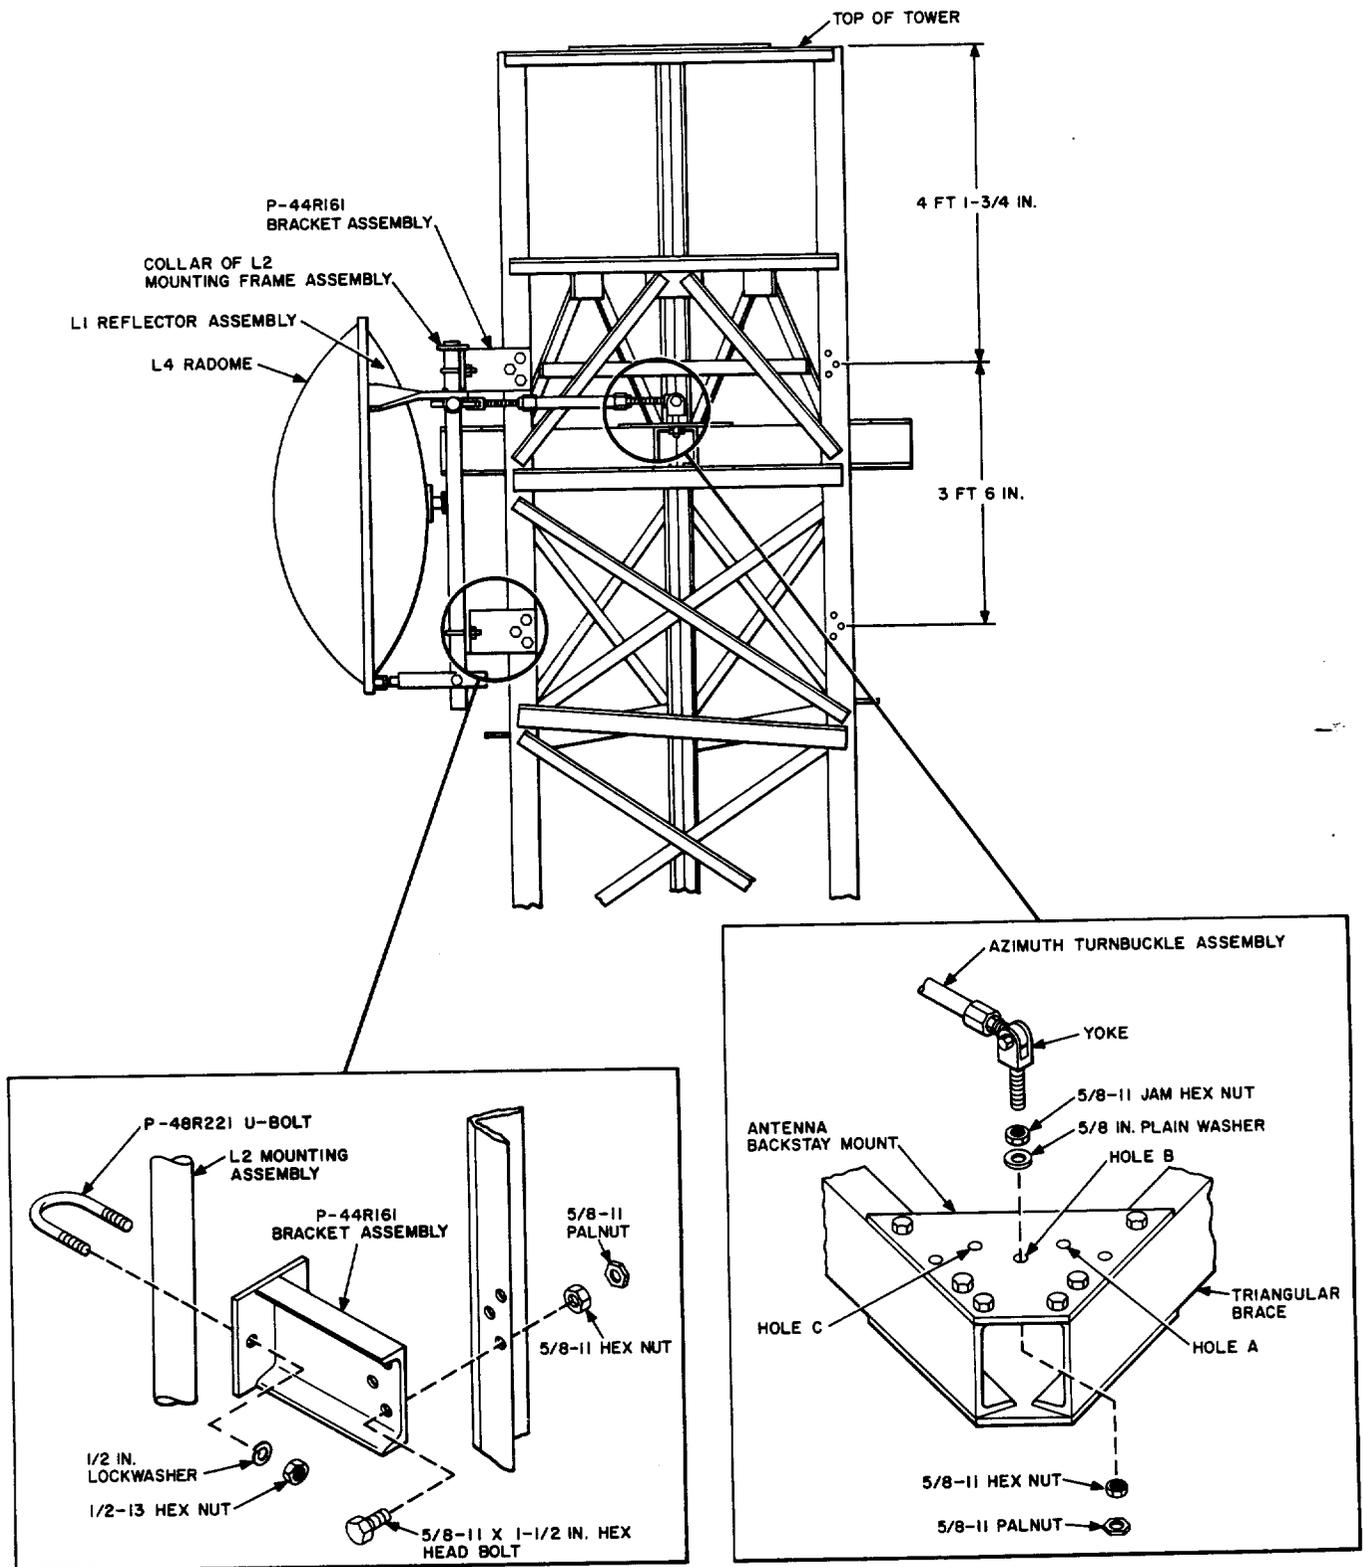

Fig. 6—Mounting Antenna on B Guyed Tower
5.10 Attach the two P-44R161 bracket assemblies to the tower leg as shown in Fig. 6. Local supervision shall determine, using Table C as a guide, if the brackets should be mounted on the left or right of the tower leg. Secure each bracket assembly with three 5/8-11 x 1 1/2 hex head bolts, 5/8-11 hex nuts, and Palnuts.
Guide the vertical member of the mounting frame into position against the two brackets (Fig. 6). The collar of the mounting frame should rest on top of the upper bracket. Secure the mounting frame to each P-44R161 bracket assembly using a P-48R221 U-bolt, two 1/2 lockwashers, and two 1/2-13 hex nuts as shown in Fig. 6.
5.12 With the antenna still supported by the winch line, install the azimuth adjustment turnbuckle using a 5/8-11 jam hex nut, 5/8 plain washer, 5/8-11 hex nut, and Palnut as shown in Fig. 6. The